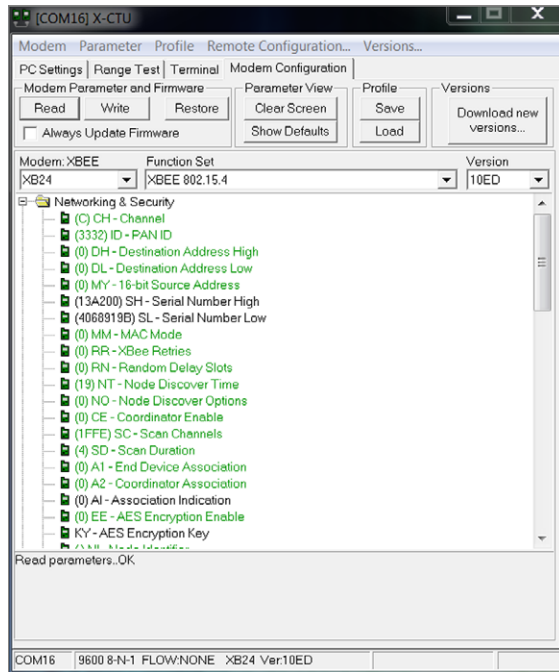

Figure 11-10: X-CTU modem configuration
- Navigate to the Modem Configuration screen and click the Read button to display all the available configuration options on your XBee and what they are currently set to. The result should look something like Figure 11-10.